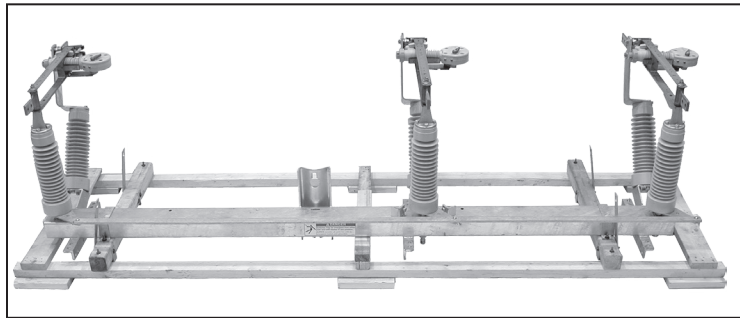

Figure 5. Uncrate the switch.
STEP 3. Remove the switch from its crate. See Figure 5. Protect the bearings from contamination by dirt, mud, oil, etc. If necessary, use blocks to keep the bearings clear of the ground. See Figure 5.